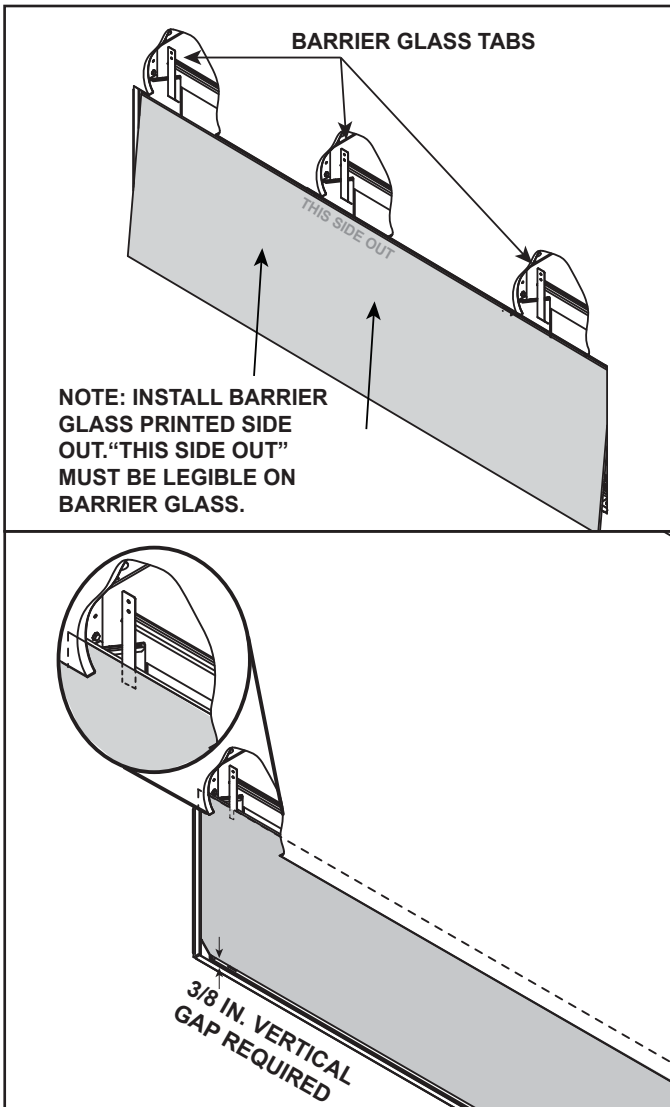

Figure 11.3. Replace Barrier Glass - Clean Face Finish
2. Tilt glass and slide glass between finishing material and barrier glass tabs. See Figure 11.3.
NOTE: Barrier glass must be installed between the ← finishing material and the barrier glass tabs. If not installed correctly, appliance will not operate. See Figure 11.3.